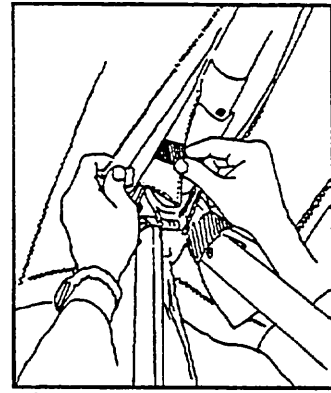

Figure 23
10) Standing under the glider just in front of and facing the control bar, remove each side of the apex protector pad from the control bar apex and stow it inside the double surface. (Figure 23)